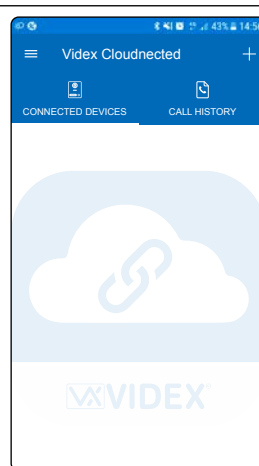

Fig. 24 Tap on "+" to bind the app with the videophone
- Using a smartphone with an active data connection (connected to internet) launch the APP then tap on the plus symbol on the top right corner (**Fig. 24 on page 21**).